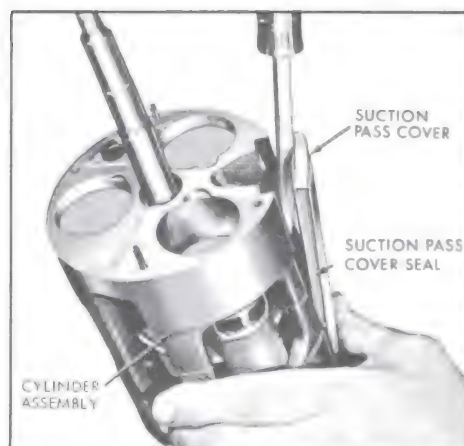

Figure 11-124—Removing Suction Pass Cover and Seal
1. Remove suction pass cover as shown in Figure 11-124 and discard seal on cover.